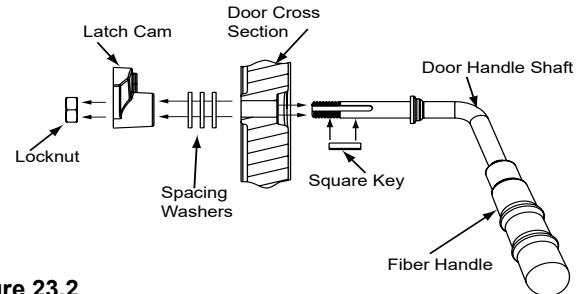

Figure 23.2
2. Install additional washer(s) as shown in **Figure 23.2**
6. Install fiber handle (**Figure 23.2**).